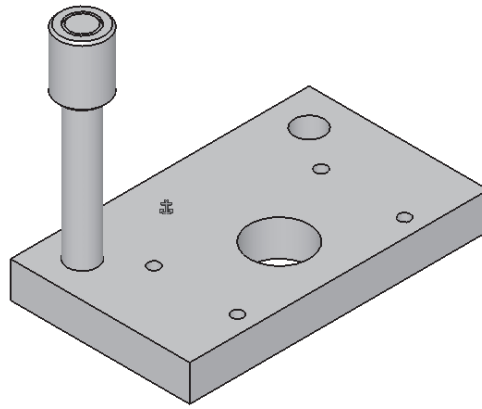

Figure 11-88 Final Guide Bush
4. This completes the feature creation of the Guide Bush as shown in Figure 11-88. Return to the assembly workbench by double clicking on the Press Tool in the specification tree.